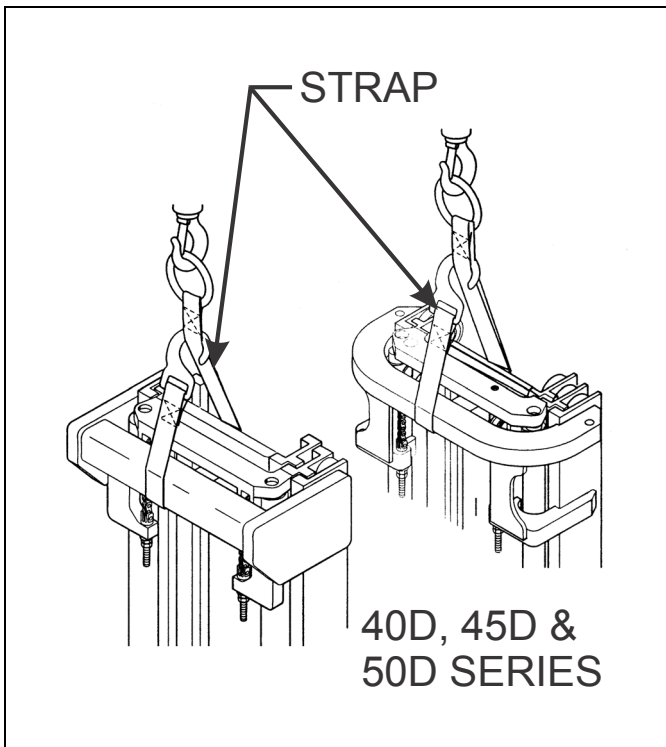

Figure 3-2: Supporting the Mast
7. Attach an overhead crane and strap, rated to 3 tons, and apply slight lift to the mast as shown in Figure 3-2.
11. Remove the masthead hose strap (See Figure 3-2 on page 3-20).